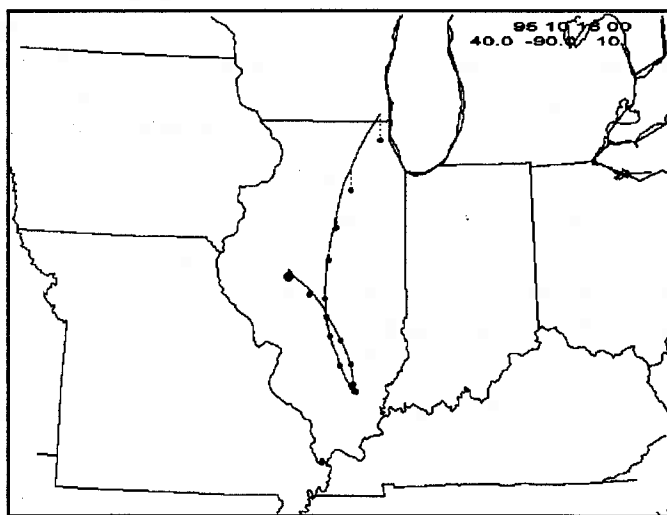

Figure 1. Trajectory from the screen display.
Step 7 - selecting *Trajectory Display* will run a special display program that converts the ASCII file of trajectory end-point positions for display on the computer screen. The windows display is automatically invoked. If everything has worked correctly, the sample control file and data will have produced a trajectory plot identical to the one shown in Fig. 1. The horizontal solid line represents the trajectory at elevation, while the green vertical lines project the trajectory position down to the ground marked with blue dots at 3-h intervals. The starting position is